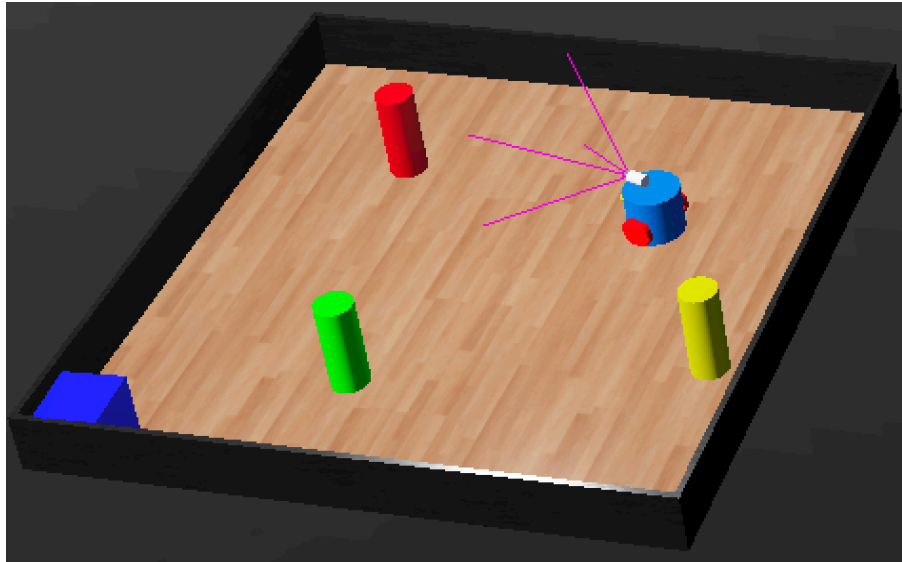

Figure 1: Test environment with three cans, a robot, and its base station.
- (b) Implement your FSA in Webots. Make a copy of the *Camera* device demo in your own projects folder and add a *Bumper* sensor to the robot (or the other way). Modify the environment so it looks like the one depicted in Figure 1, which is a square room with dark grey walls and a light parquet floor, a red can, a green can, and a yellow can, as well as a base station in the corner.